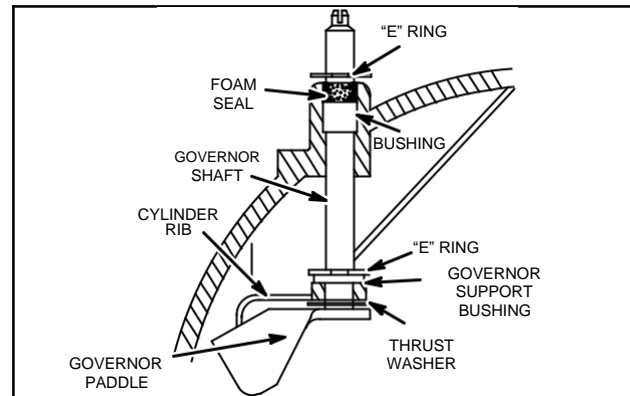

Fig. 21 – Governor Shaft Assembly (Pre-Twin II)
7. Push governor paddle against cylinder rib, Fig. 21.